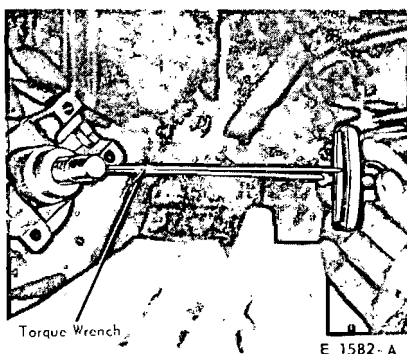

FIG. 29—Checking Pinion Bearing Pre-load
9. Adjust the bearing preload to specification. Measure the preload with the tool shown in Fig. 29.